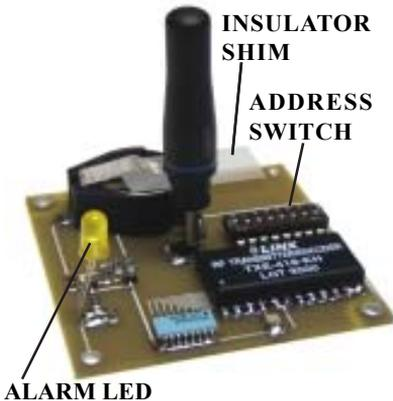

FIGURE 3 (COVER REMOVED)
5. Remove cover from the Sensor/Transmitter. Pull the insulator shim from the battery holder (see figure 3).
The Leak-Guardian is shipped from the factory with an insulator shim; (figure 3). The insulator shim *must be removed* from the battery holder of the Sensor/Transmitter to initialize the unit. Failure to remove this shim will render the leak Sensor/Transmitter unable to detect a leak, and be unable to transmit a signal to the Receiver.